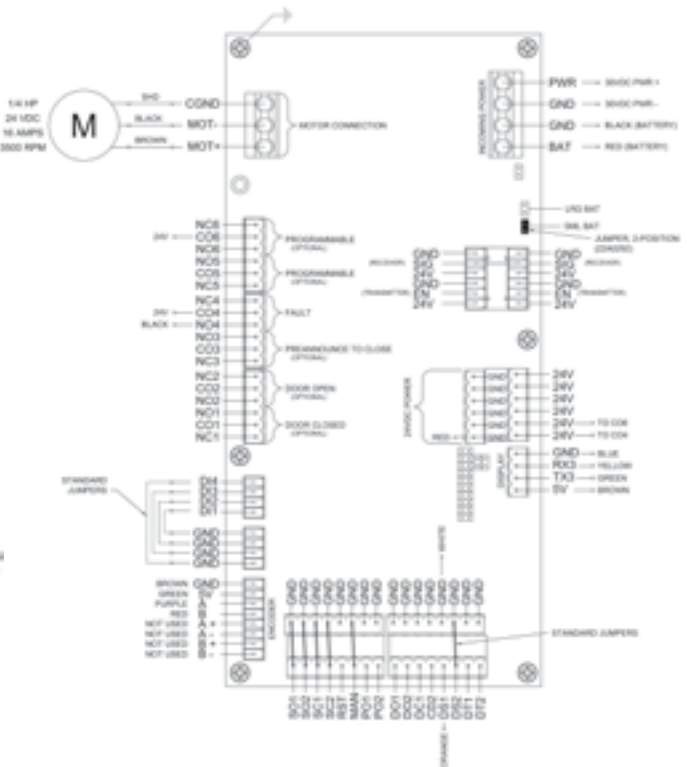

Figure 37: Controller Connections
- 2 With doors in closed position, use following steps to mount wall track assemblies (Figure 37). Steps detail mounting RH wall track assembly. For bi-part doors, there are mirrored assemblies on both sides of opening. Mounting procedure is the same for both sides.
- 7 Open & close door several times, checking that door moves freely, and that guide block rides in slot. Adjust height of detent bracket, and vertical position of wall track assembly as needed (Figure 37 & 39). Tighten all fasteners.